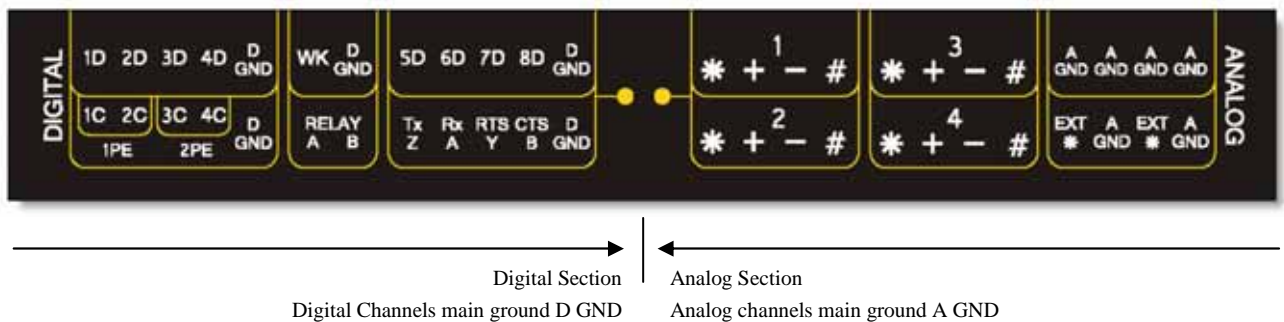

Figure 49: The DT80 has two ground systems
- the DT80 analog section is electrically isolated from the rest of the DT80 (see Figure 49 \(P141\))
The DT80 has two ground systems — **digital ground** and **analog ground** (Figure 49 \(P141\)):